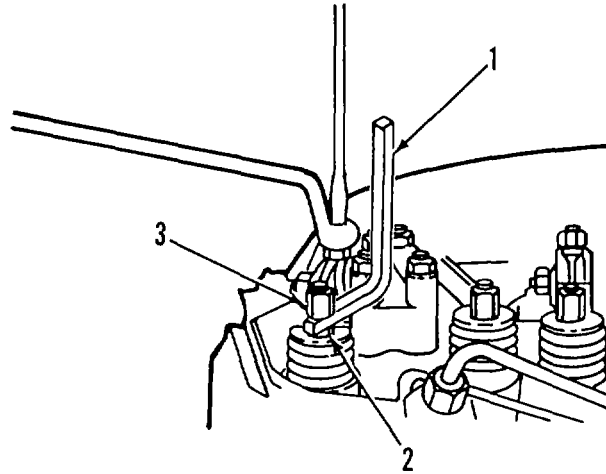

Figure 3-15. Exhaust Valve Depressed with Keystock
- (d) Depress exhaust valve down. Then install 6 mm keystone (1, Figure 3-15) between No. 1 exhaust valve stem (2) face and rocker arm (3).